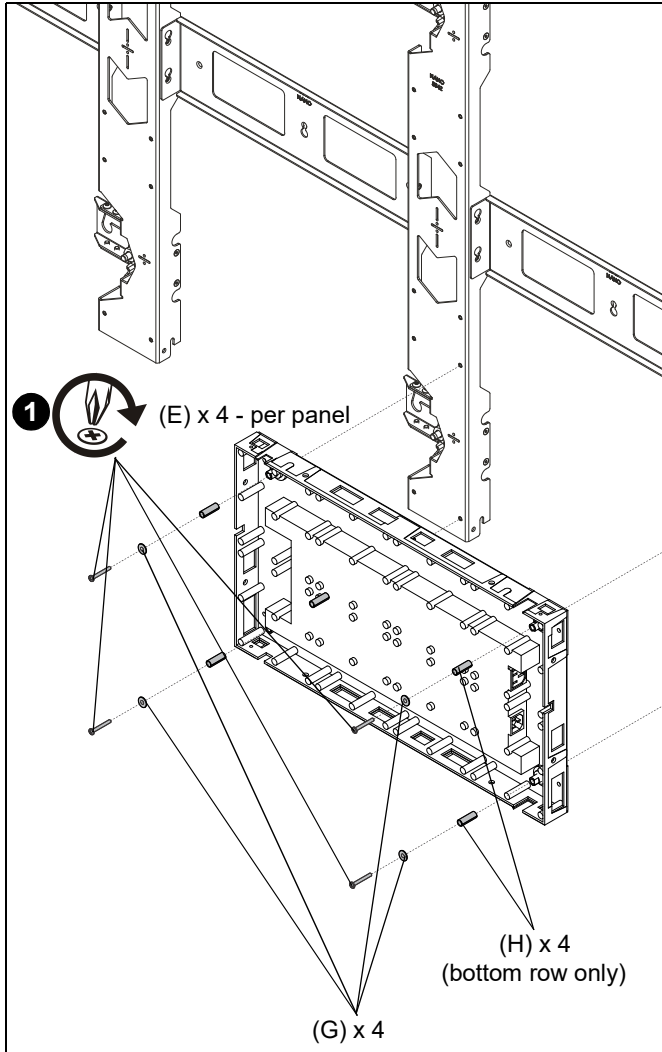

Figure 25
1. Use four #10-24 x 1 1/2" Phillips pan machine screws (E) and four #10 washers (G) to secure each panel to video wall. On bottom row ONLY, also use four slotted spacers (H). (See Figure 25)